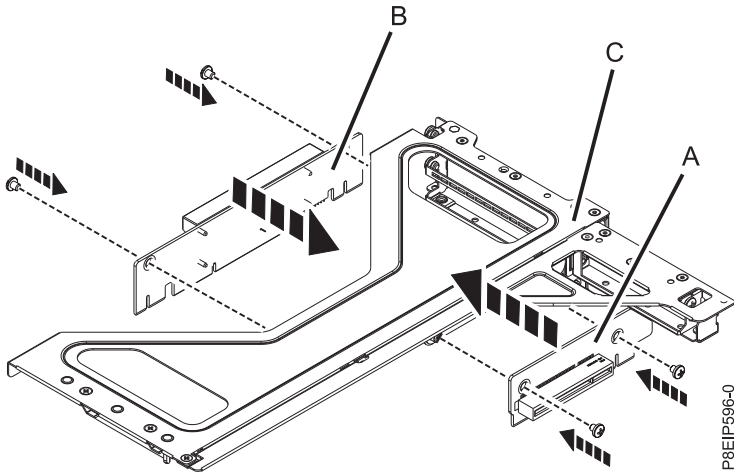

Figure 41. Replacing the PCIe riser cards in the adapter cage
5. If you need to replace the riser cards for positions 3 (A), or 4 or 5 (B); replace the screws that secure the PCIe riser card to the cage (C) as shown in Figure 41 on page 38.